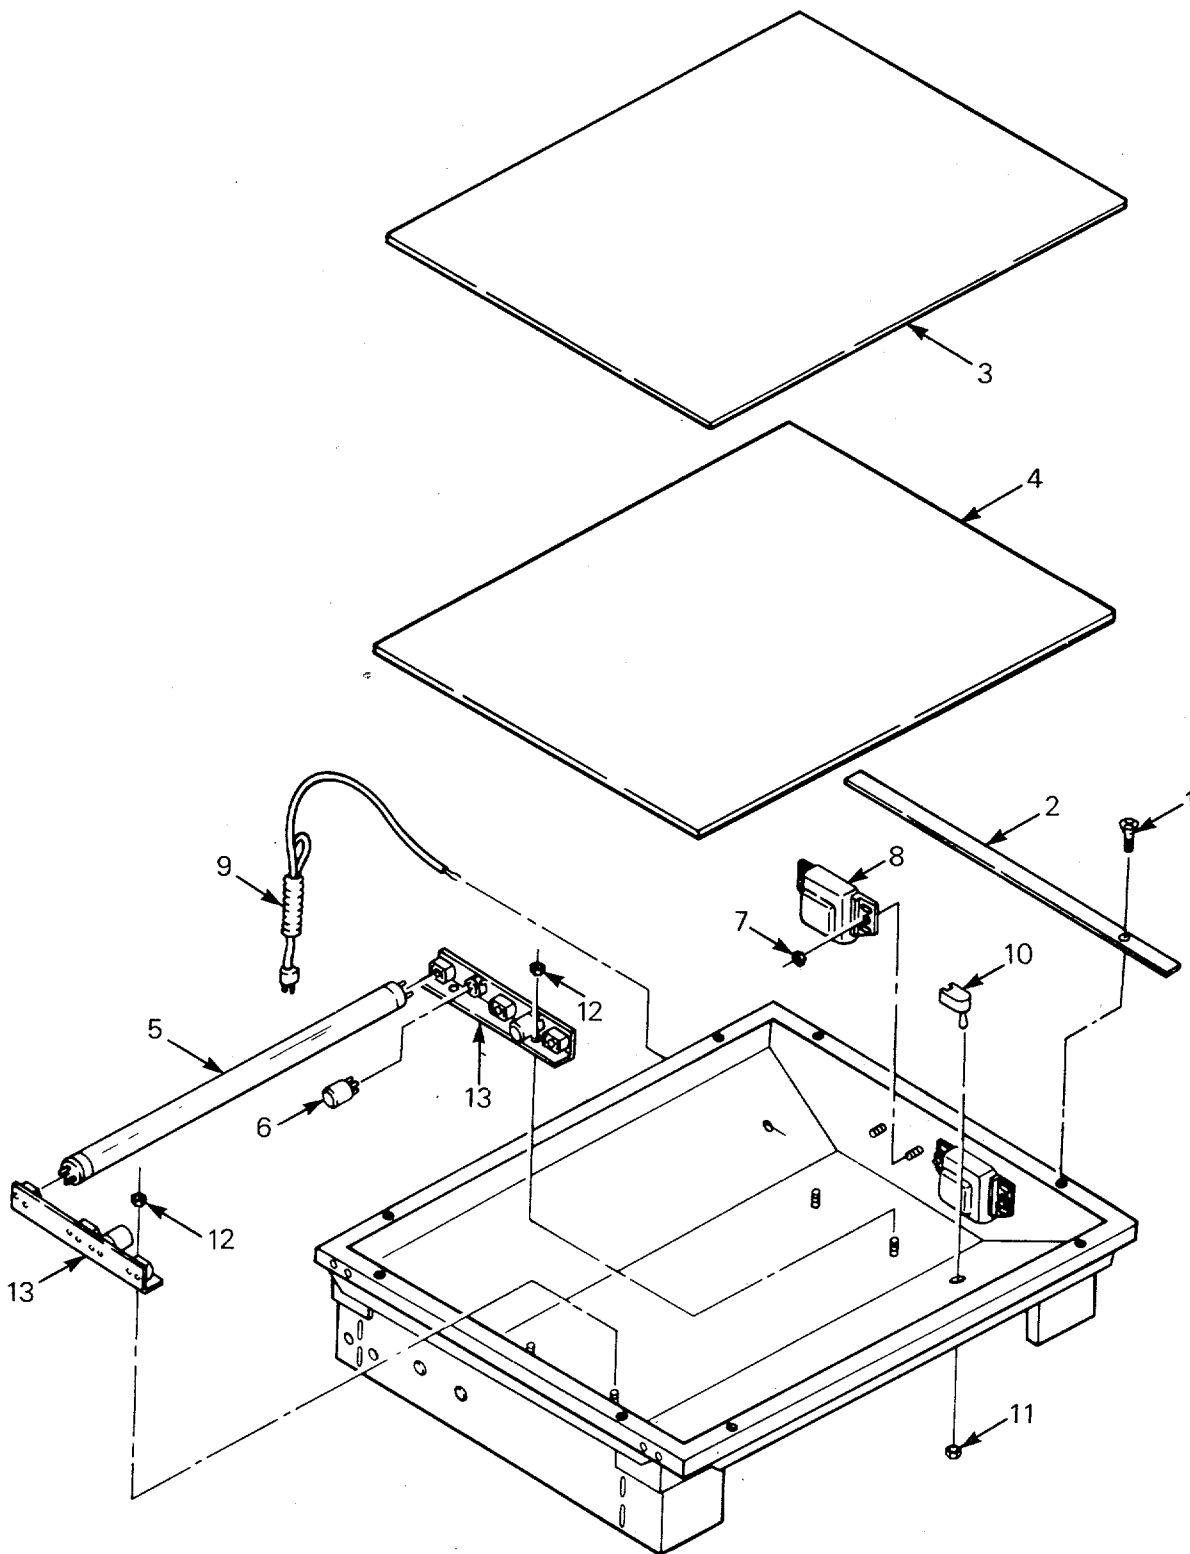

Figure 4-32. Light Table Assembly - Repair
- c. Repair. (See Figure 4-32.)
- (1) Remove three screws (1) and alignment rail (2).
- (2) Remove plastic top (3) and table glass (4).
- (3) Grasp fluorescent tubes (5), rotate 90°, and remove from tube sockets.
- (4) Rotate starters (6) counter clockwise and remove from sockets.
- (5) Remove nuts (7) and remove ballasts (8).
- (6) Remove power cord (9), switch (10), and nut (11).
- (7) Remove nuts (12) and remove left and right lamp bracket assemblies (13).
- (8) Install left and right lamp bracket assemblies (13) and secure with nuts (12).
- (9) Install switch (10), nut (11), and power cord (9).
- (10) Install ballasts (8) and secure with nuts (7).